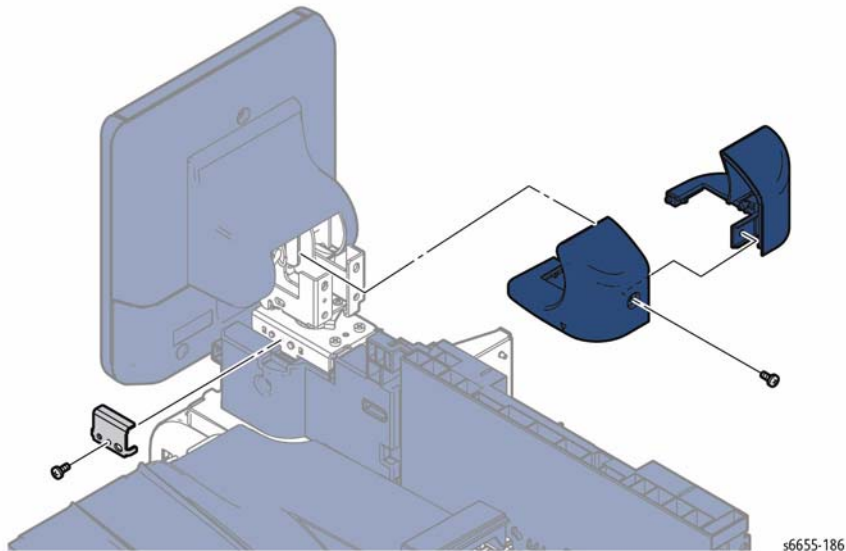

Figure 1 Remove the UI Swivel Stopper
7. Refer to Figure 1 to locate and remove one screw (silver, 6 mm) that secures the UI swivel stop.